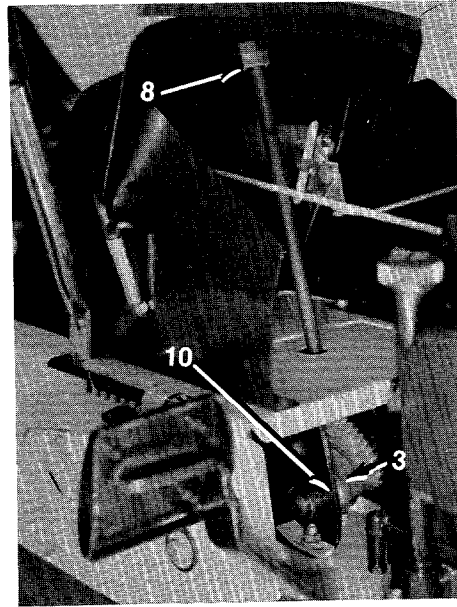

Figure 11.
3. **Steering Gears.** Lubricate the two gears with automotive multi-purpose grease once a season. (See figure 11.)
8. **Steering Column Bearings (2).** Oil once a season with SAE 30 oil. (See figure 11.)
10. **Steering Shaft Bearings (2).** Requires no lubrication. (See figure 11.)